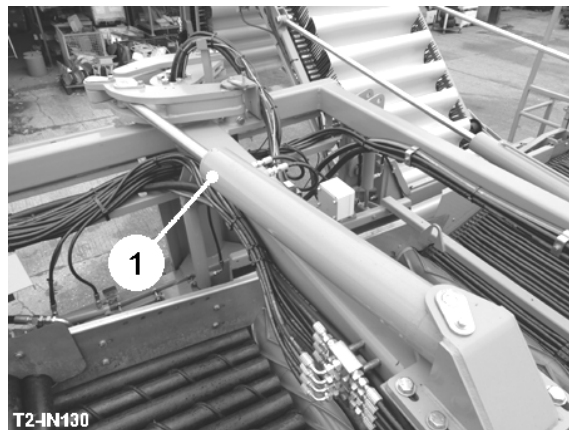

Fig 19
The RH wheel should be tracked fully in for transport and fully out during work to give optimum balance and reduce wheel loading during operation. The RH wheel is rotated into position by the tracking ram (item 1, fig 19).